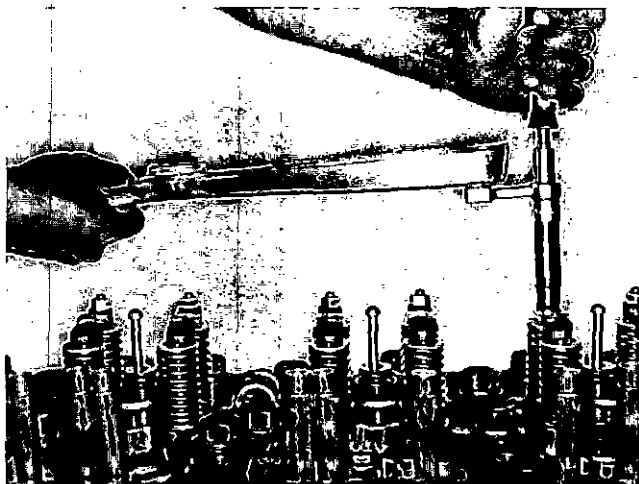

Fig. 5-34, N114176. Adjusting crosshead locknuts with ST-669 Adapter
3. Turn down crosshead adjusting screw until it touches valve stem. Fig. 5-34.